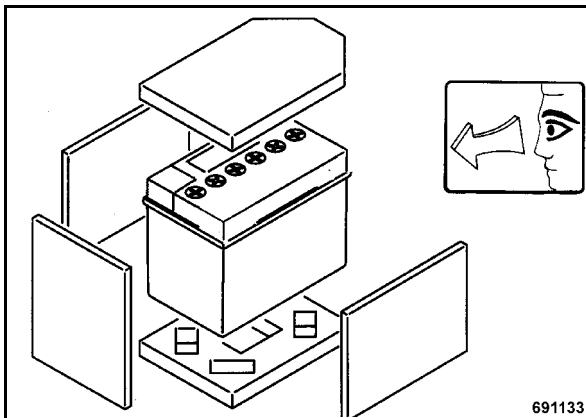

Fig. 55
- Clean the condition of the vibration insulation mats, replace if necessary (Fig. 55).